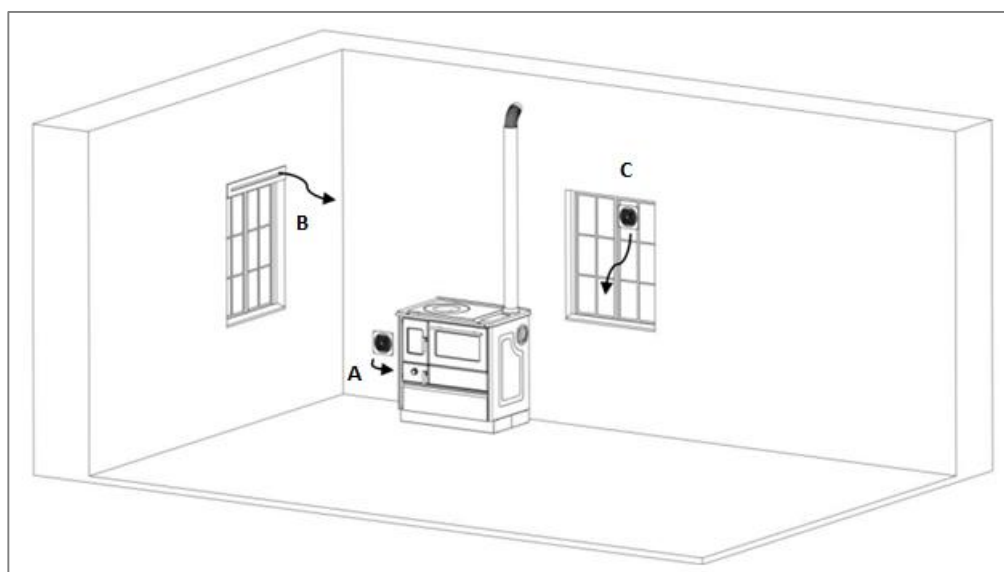

Figure 2
2. For the above cases, the room where the kitchen is installed must be ventilated continually. See figure 2 (B and C).
3. It is recommended that the combustion air opening for the kitchen be located in the lower part of the room next to the kitchen. See figure 2 (A)